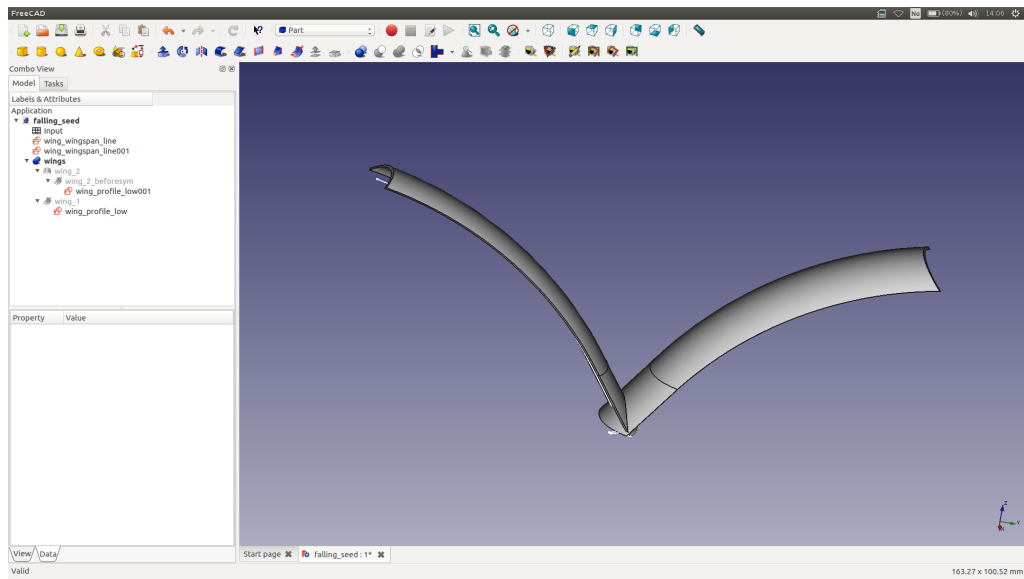

Figure 6
- Select both **wing\_1** and **wing\_2** using the ctrl key and use the **Make a union of several shapes** tool. Rename the object as **wings**. Your project should now look like Fig. 6. Remember that you can toggle on / off visibility of each part with the **space** key or in the **View** menu.